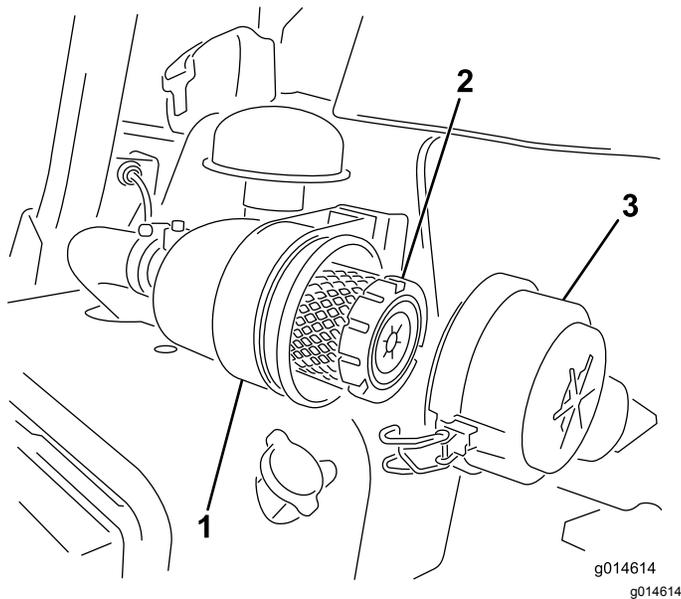

Figure 27
1. Release the latches securing the air-cleaner cover to the air-cleaner body (Figure 27).
7. Secure the latches (Figure 27).